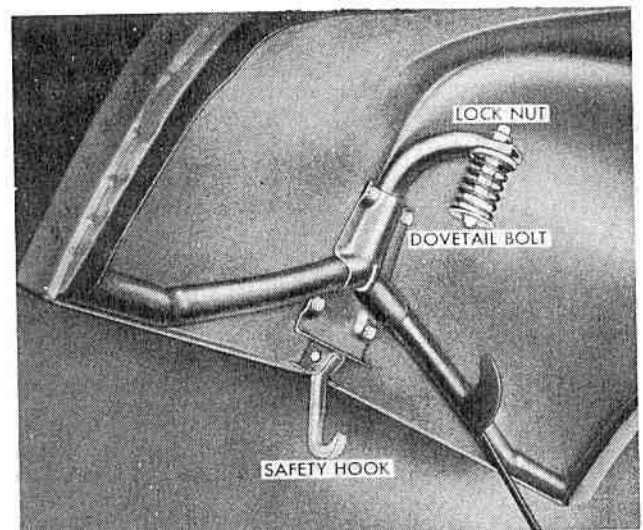

FIG. 36
**CHAMPION AND COMMANDER** The hood lock may be adjusted at the dovetail (see Fig. 36). If the hood is loose at the latch plate, the dovetail bolt should be raised (turned clockwise); if, however, too much pressure is required to close the hood, the bolt should be lowered (turned counterclockwise).